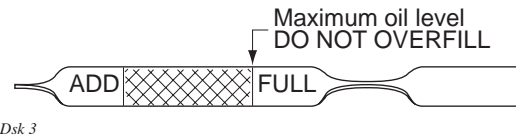

Fig. 17 Check Oil Level on Dipstick
All engines consume more oil than normal during the first hours of operation. As internal moving parts are run in, oil consumption should gradually decrease until the rate of consumption stabilizes. All engines use some oil even when in perfect condition and properly broken in. During the initial period, check the oil level at least every two (2) operational hours (Refer to page 16). Add oil if the level on dipstick indicates that oil is below safe operating range (Ref Fig. 17 on page 10).